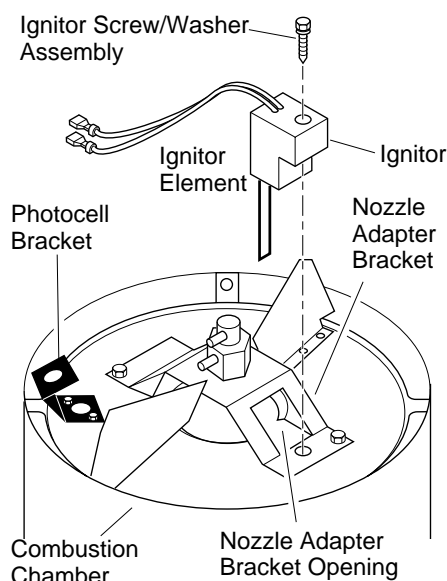

**Figure 11 - Disconnecting Ignitor Wires from Ignition Control Assembly**
4. Disconnect ignitor wires (gray) from ignition control assembly (see Figure 11). Pull the ignitor wires up through the hole in the lower shell.
5. Disconnect fuel line hose and air line hose. Remove photocell from photocell bracket (see Figure 11).